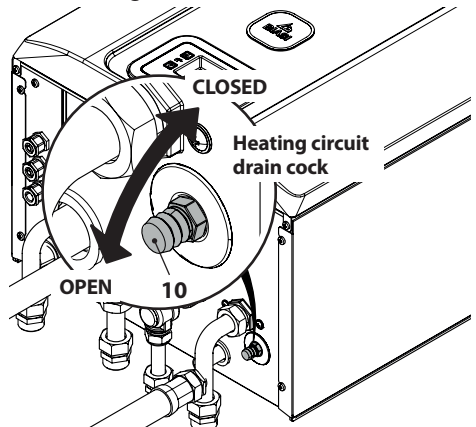

Figure 9.10
- Loosen the heating circuit drain cock 10 indicated in Figure 9.10.